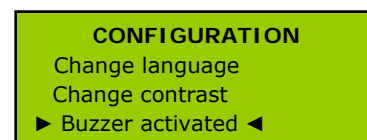

Figure 23
- "Buzzer activated / Buzzer deactivated" activates and deactivates the sonic/light indicator. To select this, place the cursors beside this option as shown in Figure 23 and press [ENTER].